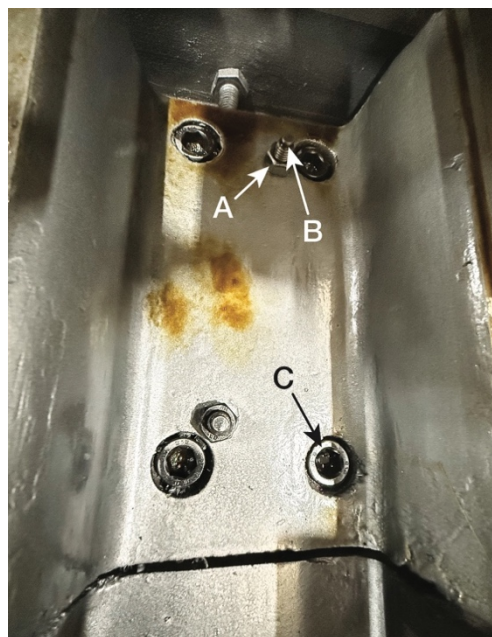

Figure 14-4
1. Using an open-end wrench, tighten the two hex nuts (A, Figure 14-4). This will cause the taper pins (B, Figure 14-4) to release. Remove the taper pins.
2. Remove the four hex socket cap screws (C, Figure 14-4) with a hex key wrench.
3. Remove nuts (A, Figure 14-4) from the taper pins (B, Figure 14-4).
5. Install four socket head cap screws (C, Figure 14-4) and tighten securely.